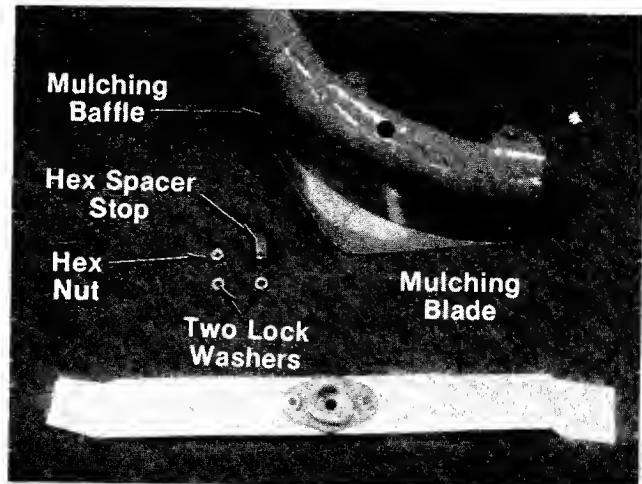

FIGURE 11.
4. For normal mowing, you should have removed the items shown in figure 11. Have the standard blade installed and the chute deflector down.